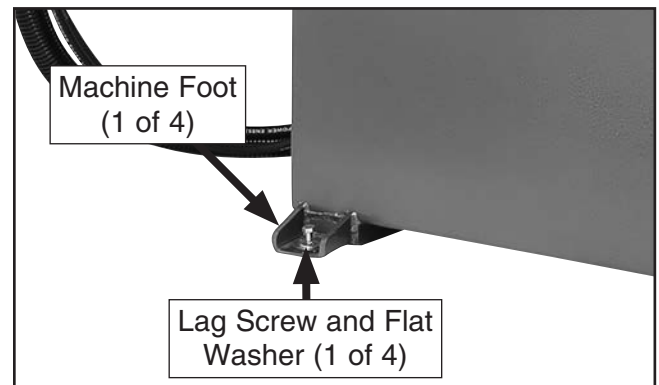

Figure 10. Machine secured to shipping pallet.
3. Remove (4) lag screws and flat washers that secure machine to pallet (see **Figure 10**).